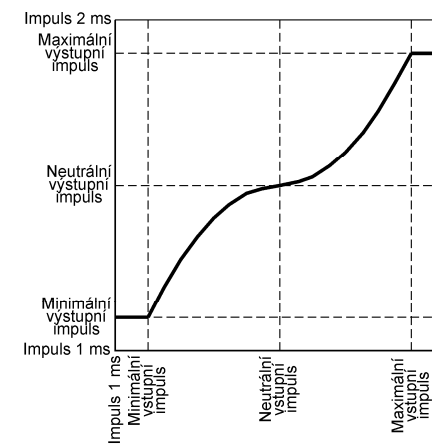

Fig. 3: Square conversion
6) Square pulse conversion (Fig. 3):